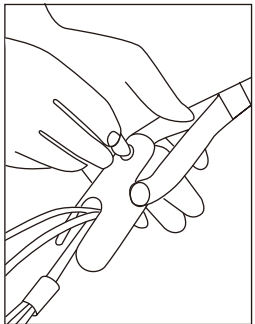

Fig. 4
5. Secure rope clevis to Grips pulling eyes and pulling rope. Rope size will determine which rope clevis to use (Fig 4).
6. Attach rope to Rope Clevis (Fig 4).